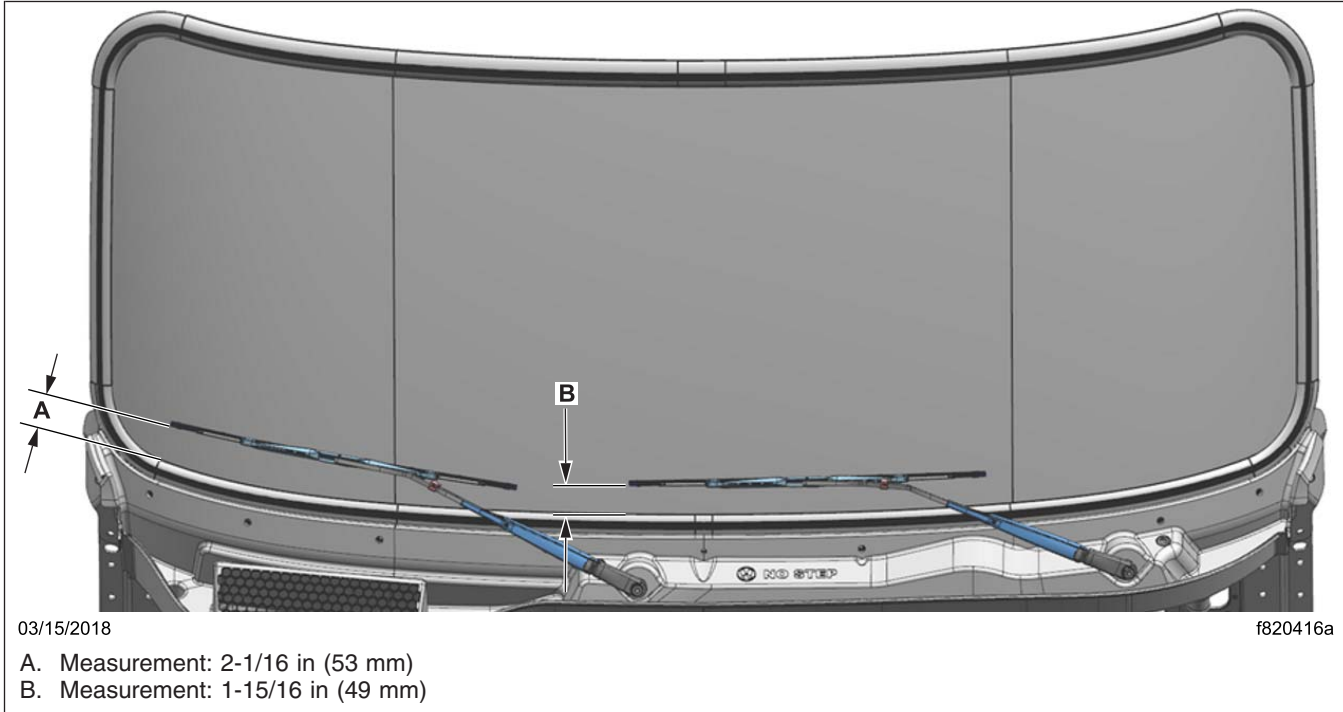

Fig. 4, Windshield Wiper Park Position
15. Test the wiper motor and washers. Operate the wipers at low speed and check that the blades do not slap against the mask around the edge of the windshield, and that the wipers park as shown in **Fig. 4**. In the parked position, the end of the right-hand wiper blade should be 2-1/16 inches (53 mm) above the bottom edge of the windshield, and the end of the left-hand wiper blade should be 1-15/16 inches (49 mm) above the bottom edge of the windshield.